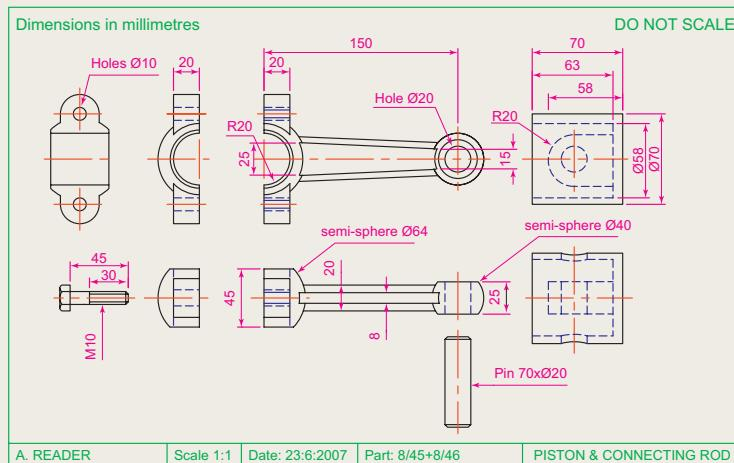
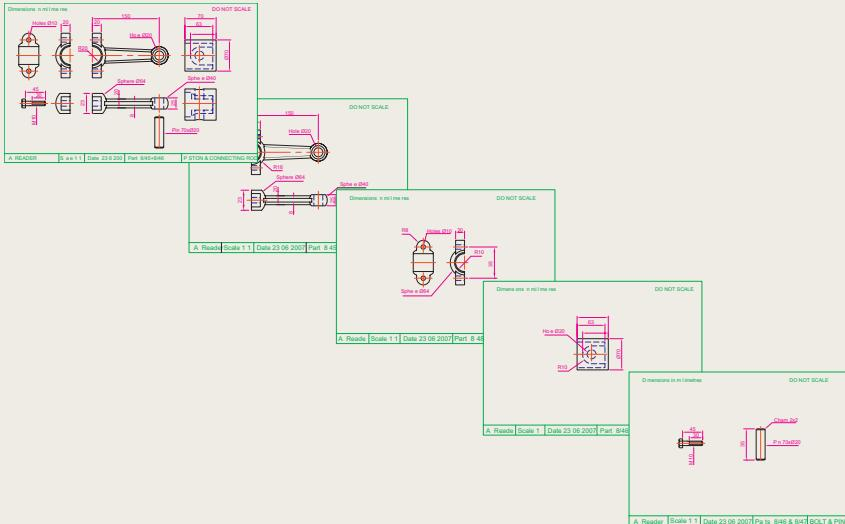

Fig. 11.15 Exercise 1 – exploded orthographic projection
Fig. 11.17 Exercise 1 – the five drawings in the sheet set
- 1.** Fig. 11.15 is an exploded orthographic projection of the parts of a piston and its connecting rod. There are four parts in the assembly. Small drawings of the required sheet set are shown in Fig. 11.17. Construct
the drawing in Fig. 11.15 and also the four drawings of its parts. Save each of the drawings in a **Layout1** format and construct the sheet set which contains the five drawings.